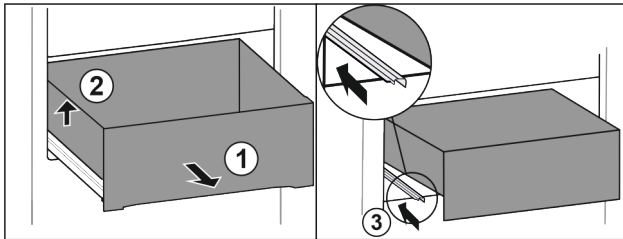

Fig. 127
- ▶ Pull out drawer as far as it will go. Fig. 127 (1)
- ▶ Lift drawer on the left. Fig. 127 (2)
- ▶ Insert left rail. Fig. 127 (3)